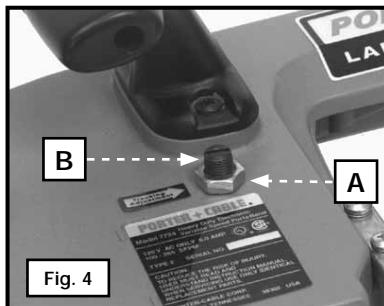

Fig. 4
1. Use a 9/16" wrench to loosen the locking nut (A) Fig. 4, by turning it counter-clockwise, one or two turns.
2. Use a flat screwdriver to turn the tracking screw (B) Fig. 4, 1/4 turn. Turning the screw clockwise will move the blade toward the blade guide rollers. Turning the screw counter-clockwise will move the blade away from the blade guide rollers.